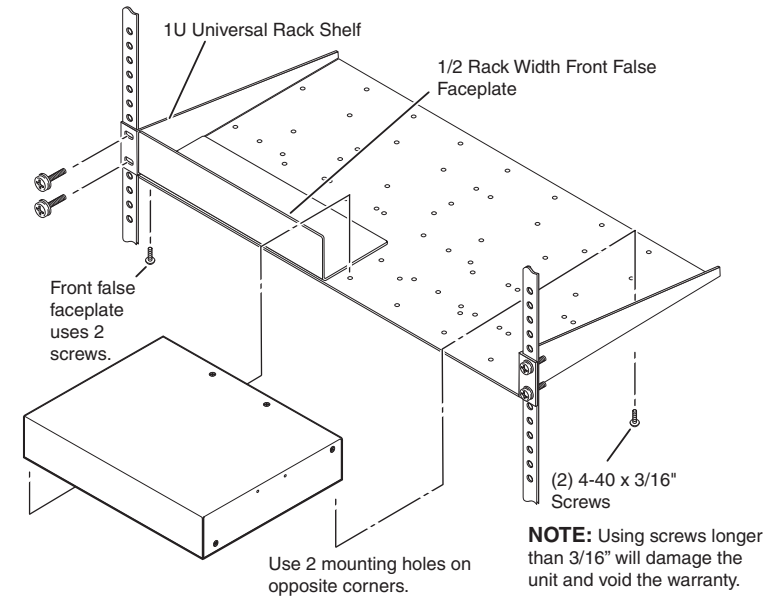

Figure 2-2 — Mounting the unit on a standard rack shelf
- RSU 129 9" 1U universal rack shelf kit (part #60-190-01) (figure 2-2)